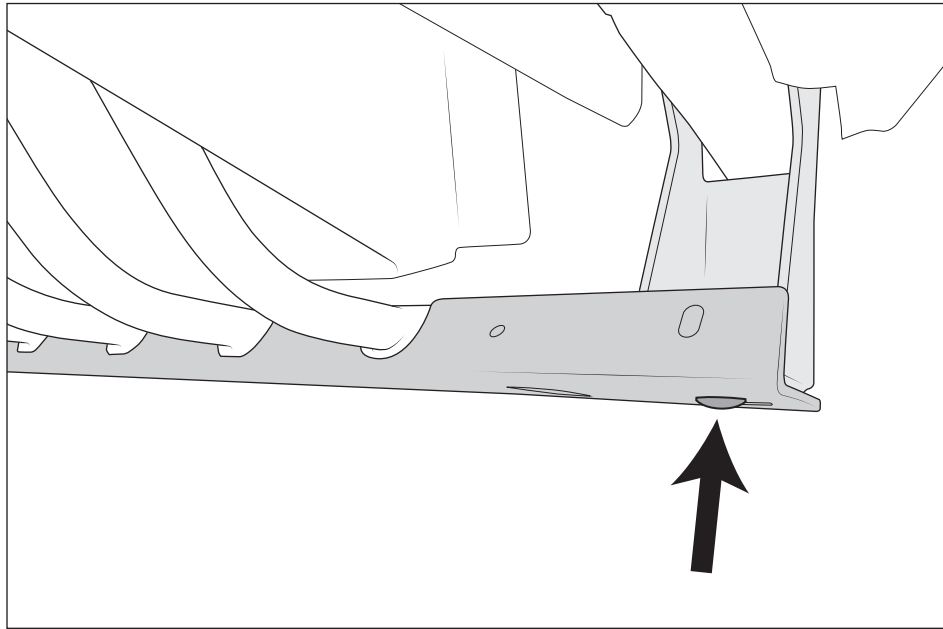

Figure 6
- Lift the Closeout Plate into place and loosely install the two M10 x 35 carriage bolts through the closeout bracket and the bottom of the compatibility beam brackets. Use two of the supplied M10 flange nuts to secure the bolts (fig. 6).